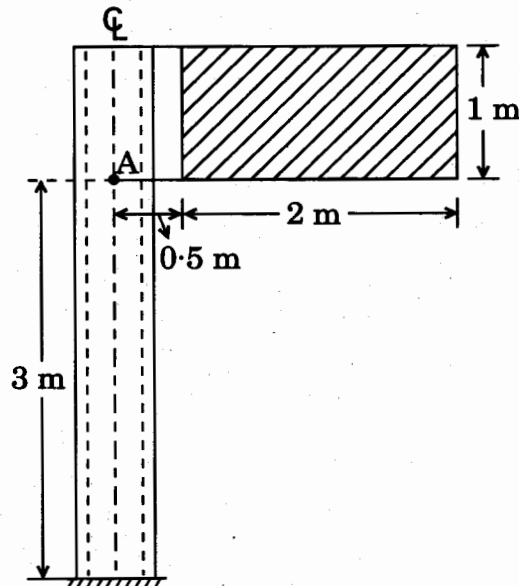

Figure 3
- Q2. (a) A steel tube is to be used as a post for a road sign board as shown in Figure 3. The maximum wind pressure on the sign board is  $1960 \text{ N/m}^2$ . The angle of rotation of the tube at the bottom of the sign board marked as A must not exceed  $4^\circ$  and the maximum shear stress (due to torsion only) must not be greater than 38 MPa. Determine the mean diameter of the tube if the wall thickness is 4.2 mm. Take  $G = 70 \text{ GPa}$ . Assume wind is transmitting only over the sign board portion.